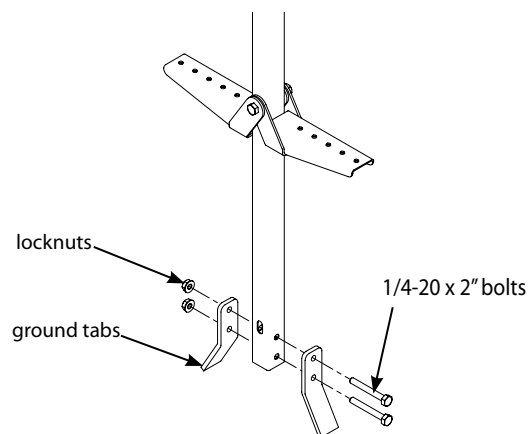

Figure 2
2. Attach (2) ground tabs (SS19) to the bottom end of the bottom stick section using (2) provided 1/4-20 x 2" bolts. **SEE FIGURE 2. Tighten securely. Do not over tighten or crush tubing when tightening!**